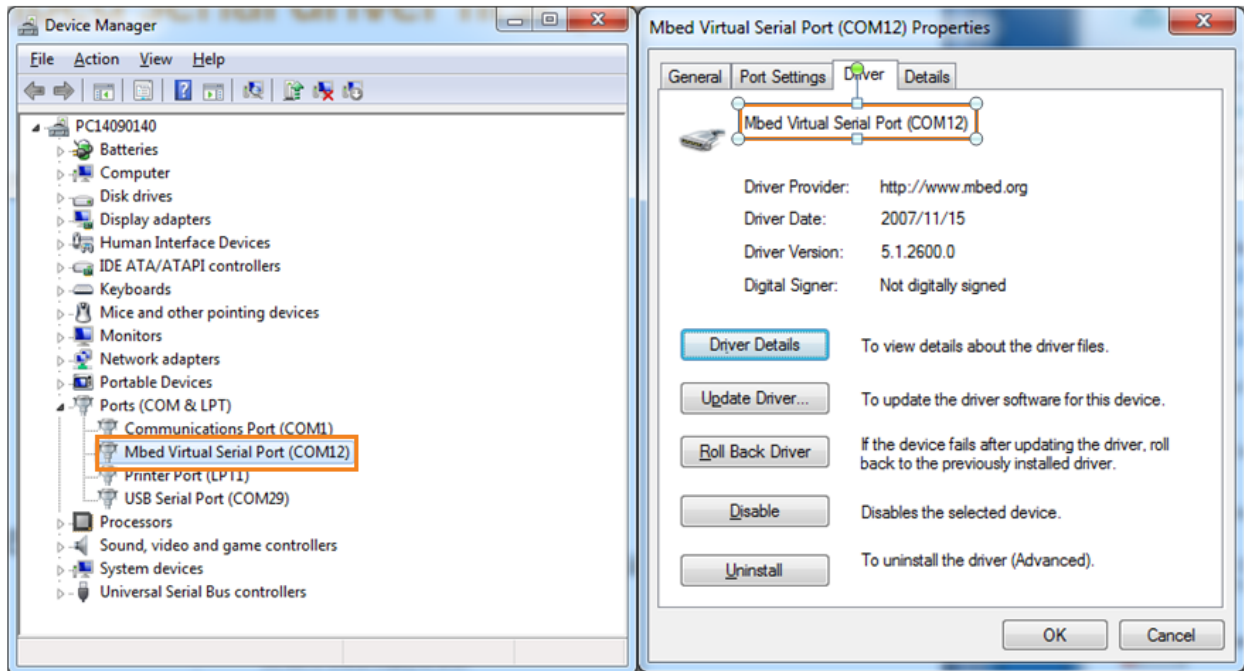

Figure 25. Installing the UART driver
- 4) In **Device Manager**, navigate to **Ports (COM & LPT)** (see Figure 25).